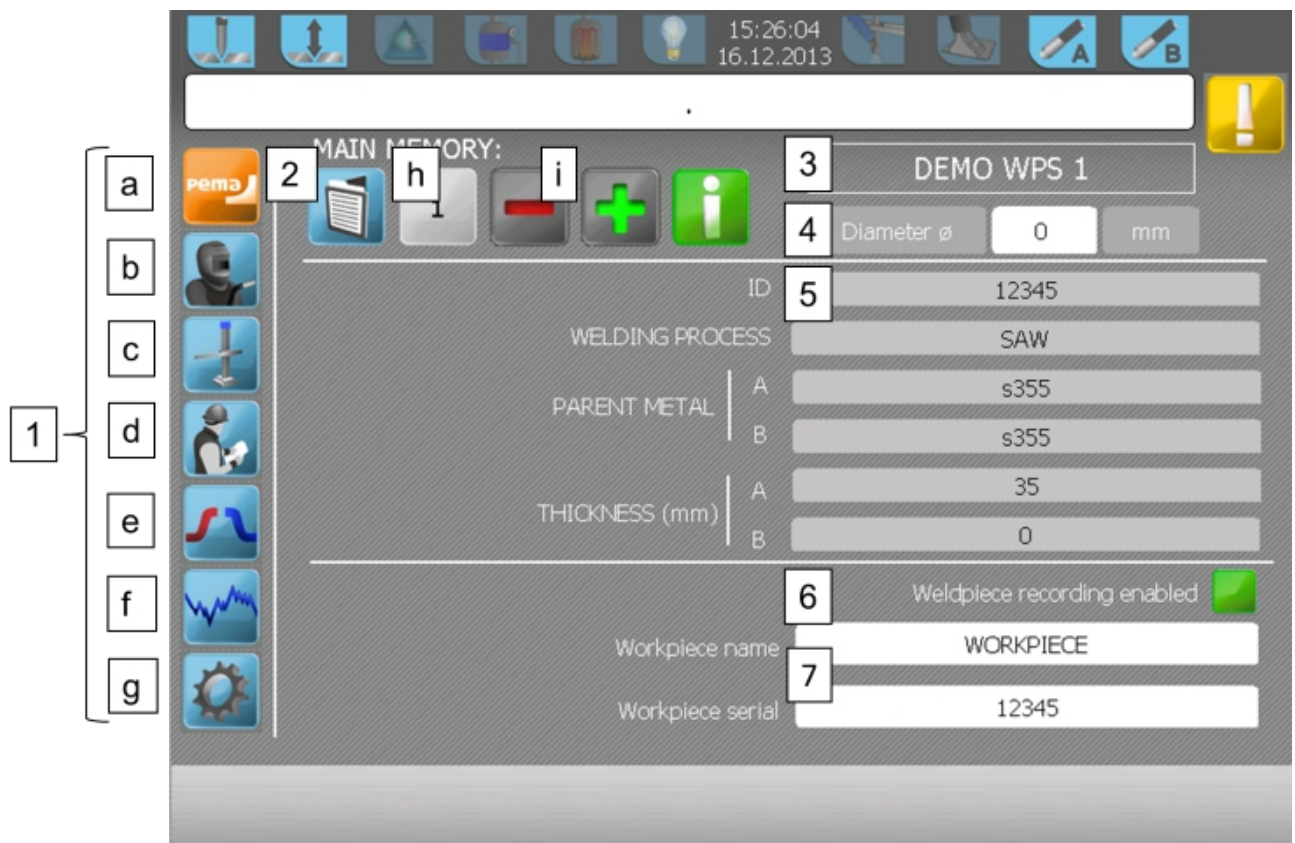

Figure 15 Main screen in OP1
Start welding process by choosing main page (1a) and then the memory slot (2), where the work piece specific parameters are saved. If work piece is new, work piece information can be saved to production data enabling it with button weldpiece recording enabled (6). (For more information about begin procedures see also Control panel RC1.) In this chapter it is told more specifically, what is included in navigation bar, in memory functions field and on operational functions field. The locations of these functions are displayed in figure 15 The symbol of Main page is a square with text PEMA in it. While requested page is displayed, the color of the symbol turns orange.